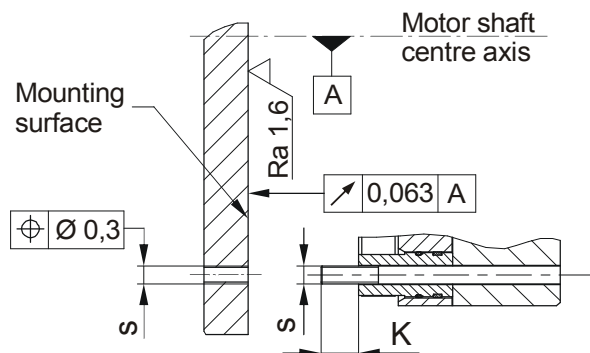

Fig. 5
- On hub designs (Type 8012._1_3), the hub bore (10) tolerances and the shaft must be selected so that the hub toothing (10) is not widened. Widening of the toothing leads to the rotor (3) jamming on the hub (10) and therefore to brake malfunctions. Recommended hub - shaft tolerance H7/k6. If the hub (10) is heated for better joining, the O-ring (11) must be removed beforehand and re-mounted after hub installation. The max. permitted joining temperature of 200 °C must not be exceeded.
- Dimensioning of the key connection according to the requirements shaft diameter, transmittable torque and operating conditions must be carried out. For this, the corresponding user data must be known or the customer must carry out the dimensioning according to the valid calculation basis DIN 6892. For the calculation, a hub quality of $Re = 300 \text{ N/mm}^2$ should be used. The length of the key should lie over the entire hub (10).
- The mounting dimensions and the screw-on surface s with depth $K + 2 \text{ mm}$ ($K = \text{screw projection}$) acc. Catalogue or applicable assembly drawing must be given (Fig. 5).